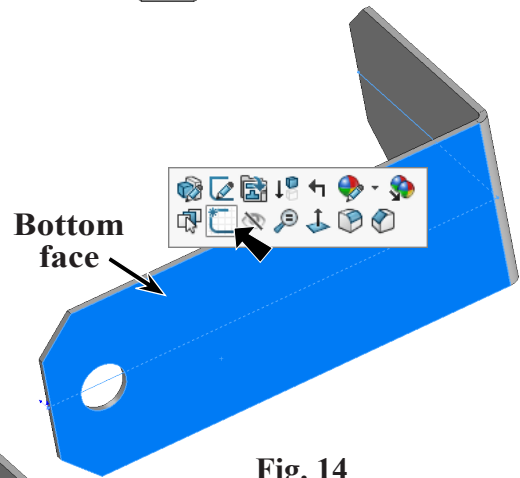
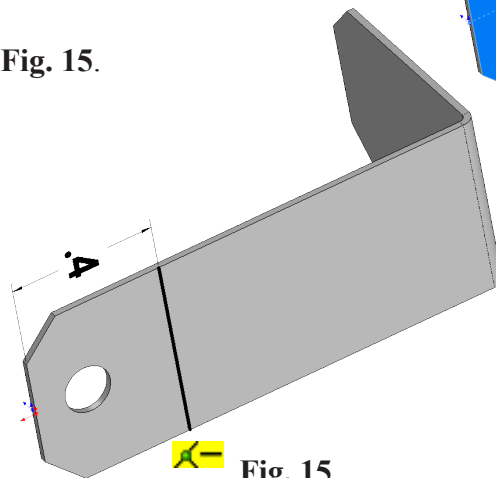

Fig. 14
Fig. 15
Step 1. Rotate view to view **bottom face**, hold down middle mouse button (wheel) and drag to **rotate view**, **Fig. 14**.
Step 2. Click the **bottom face** and click **Sketch**  on the context toolbar, **Fig. 14**.
Step 3. Click **Line**  (L) on the Sketch toolbar.
Step 4. Draw line across sheet metal, **Fig. 15**. Keep line horizontal .
Step 5. Click **Smart Dimension**  (S) on the Sketch toolbar.
Step 6. Add .4 dimension, **Fig. 15**.